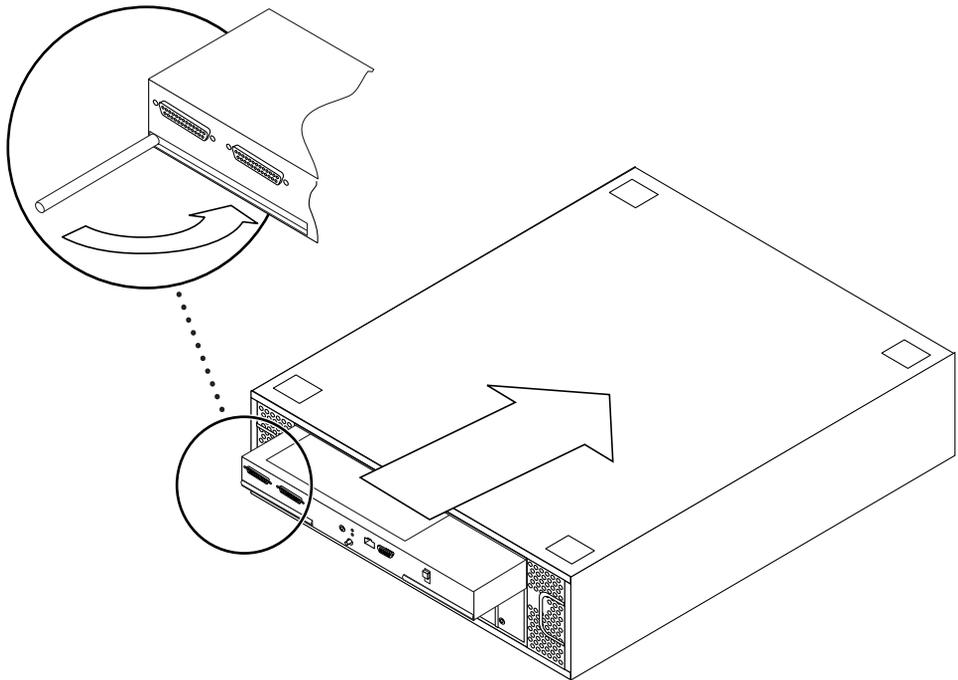

FIGURE A-2 Installing the Netra st A1000 Controller Board
1. **Slide the Netra st A1000 controller board into the slot in the chassis (FIGURE A-2).**
3. **Push both handles inward until they are flush with the board (FIGURE A-2).**